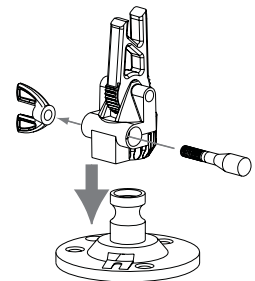

Figure 2
2. Assemble the horn on the mounting base and slide the tapered pin through the hole in the swivel mount. Secure the pin and assembly using the wing nut, but leave loose to allow positioning of the horn (See Figure 2).